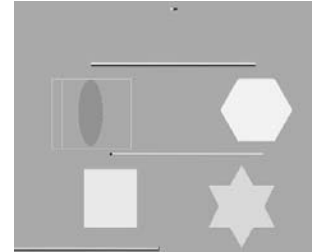

Figure 8.13
5. Fantastic! Now it is time to animate the circle shape itself. Move to the end of your timeline (frame 100, press the End key), and click the Auto Key button at the bottom of the interface (you can also press the N key to toggle Auto Key on and off). Select the circle, and rotate a few hundred degrees on the Z-axis in either direction. Do not rotate the dummy, just the circle. Figure 8.13 shows how the circle rotates within the dummy, which then follows with the bar's rotation.